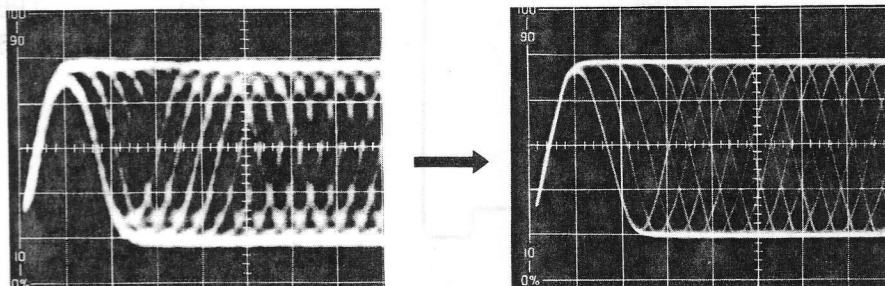

Fig. 19
Step 2 Adjust VR251 (Best Eye Adjust) so that the eye pattern of RF signal has the sharpest focus. (Ref. Fig. 19). (VR251 is located at the uppermost of No. 3 P.C.B.)